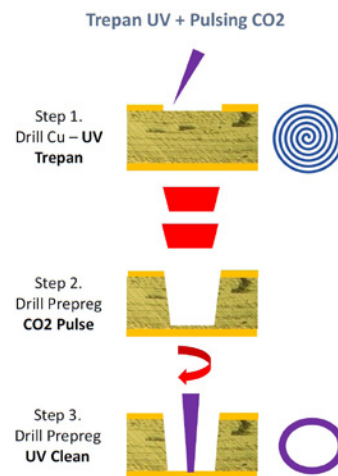

Figure 4: Combi process.
- **The Combi Method (Figure 4):** A multi-step process typically involving: